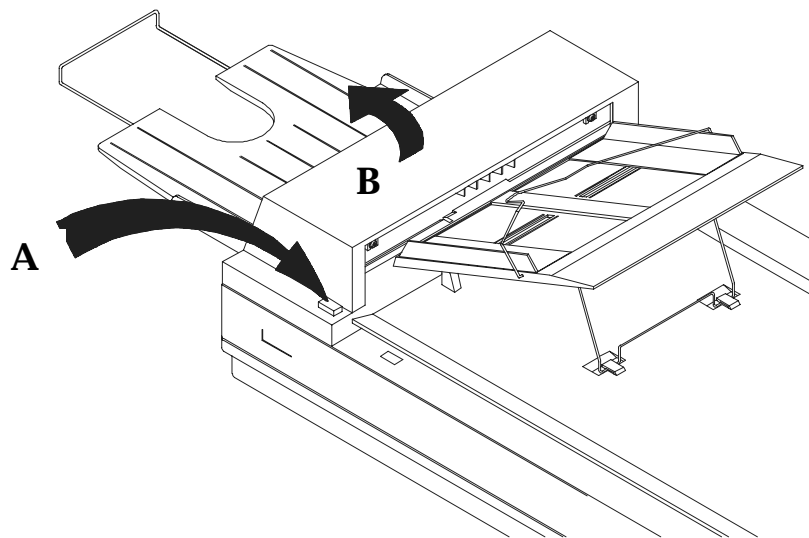

Figure 4.1 ADF Paper Jam - Opening the ADF.
- i). Press the button at the front left of the Scanner as shown in Figure 4-1, arrow A. The ADF cover will be released.